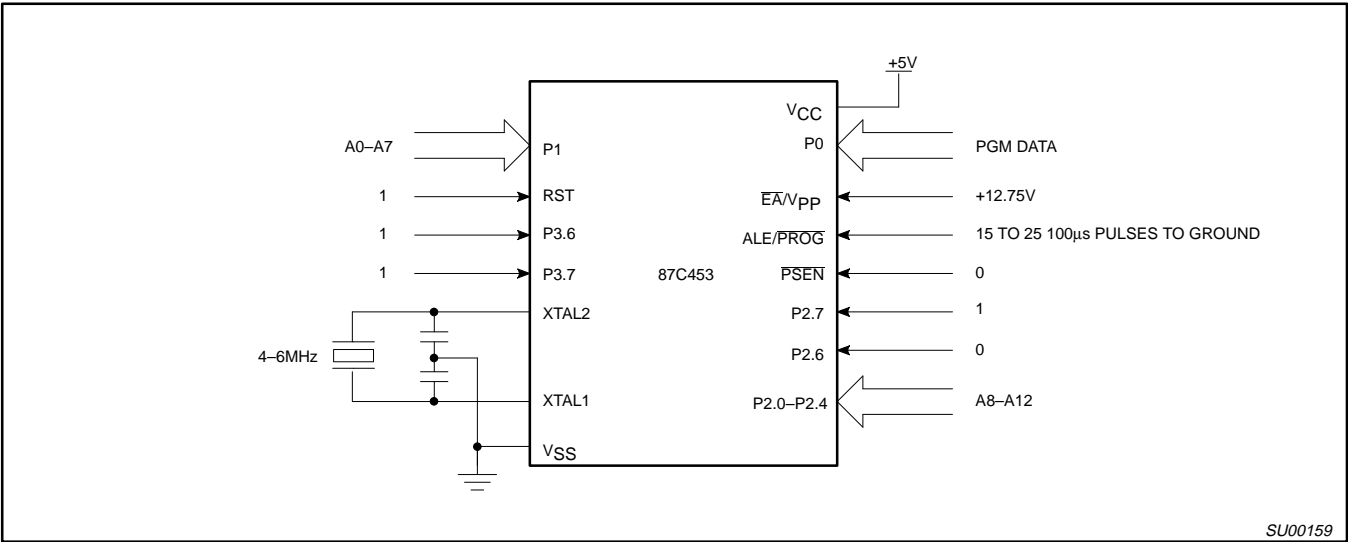
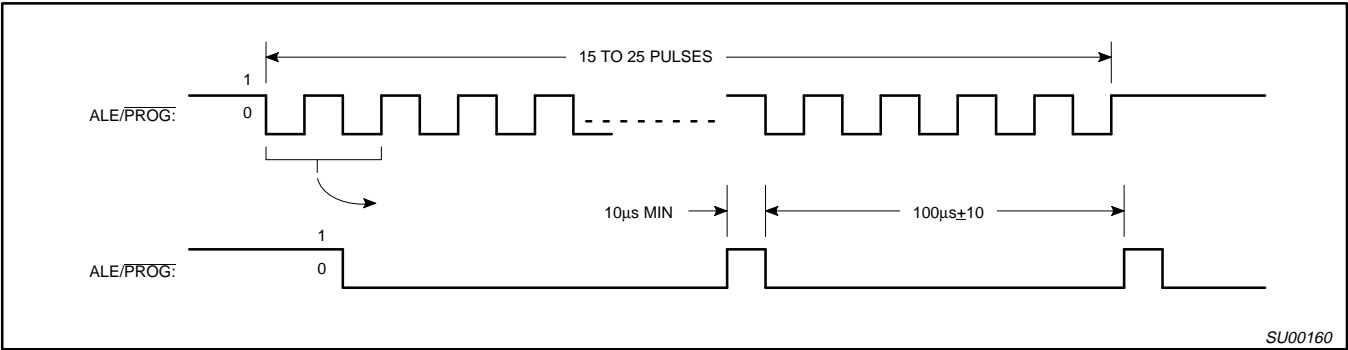
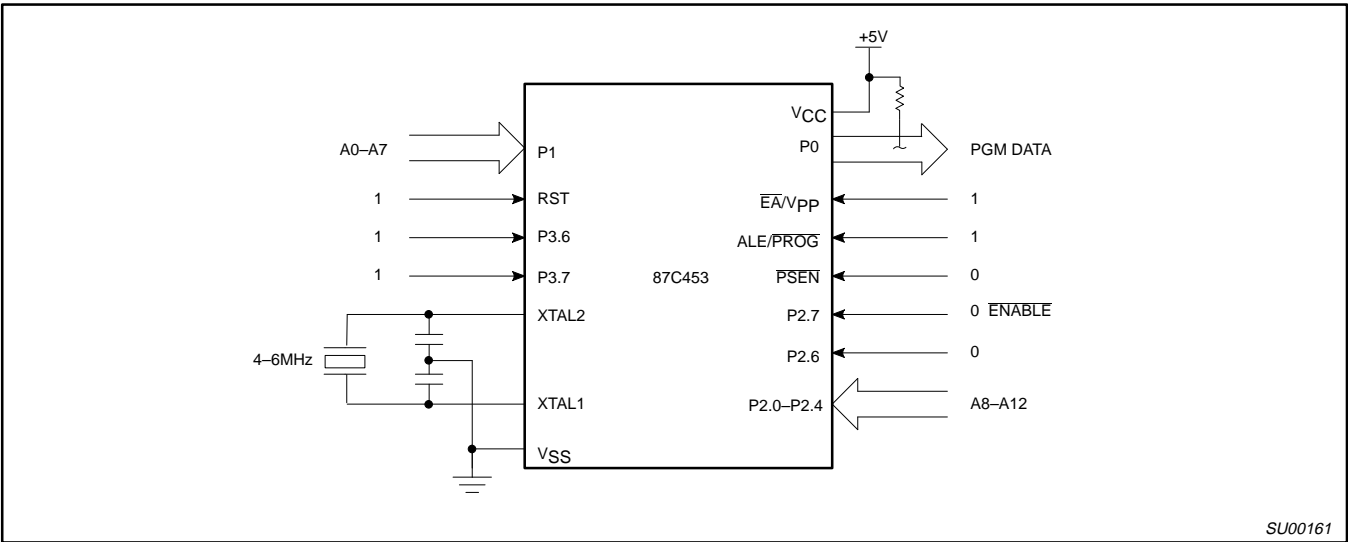

Figure 25. Programming Configuration
Figure 26. PROG Waveform
Figure 27. Program Verification
Table 4 shows the logic levels for reading the signature byte, and for programming the program memory, the encryption table, and the lock bits. The circuit configuration and waveforms for quick-pulse programming are shown in Figures 25 and 26. Figure 27 shows the circuit configuration for normal program memory verification.
The setup for microcontroller quick-pulse programming is shown in Figure 26. Note that the 87C453 is running with a 4 to 6MHz oscillator. The reason the oscillator needs to be running is that the device is executing internal address and program data transfers.
The address of the EPROM location to be programmed is applied to ports 1 and 2, as shown in Figure 25. The code byte to be programmed into that location is applied to port 0. RST, \overline{PSEN} and pins of ports 2 and 3 specified in Table 4 are held at the 'Program Code Data' levels indicated in Table 4. The ALE/PROG is pulsed low 15 to 25 times, as shown in Figure 26.
If lock bit 2 has not been programmed, the on-chip program memory can be read out for program verification. The address of the program memory locations to be read is applied to ports 1 and 2 as shown in Figure 27. The other pins are held at the 'Verify Code Data' levels indicated in Table 4. The contents of the address location will be emitted on port 0. External pull-ups are required on port 0 for this operation.
- * FOR PROGRAMMING VERIFICATION SEE FIGURE 25.
FOR VERIFICATION CONDITIONS SEE FIGURE 27.